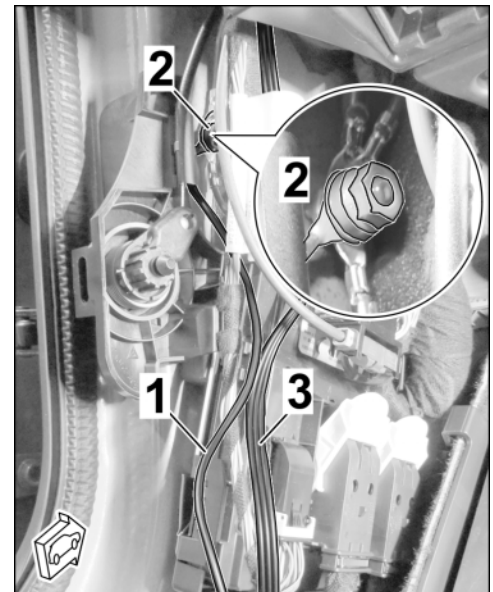

Figure 17
- 3.3.6 Route BK; 0.5² line (terminal 31) to ground pin MB11, shorten it and install it on ground pin MB11 using cable ring eyelet A6 (⇒ *Figure 17*).